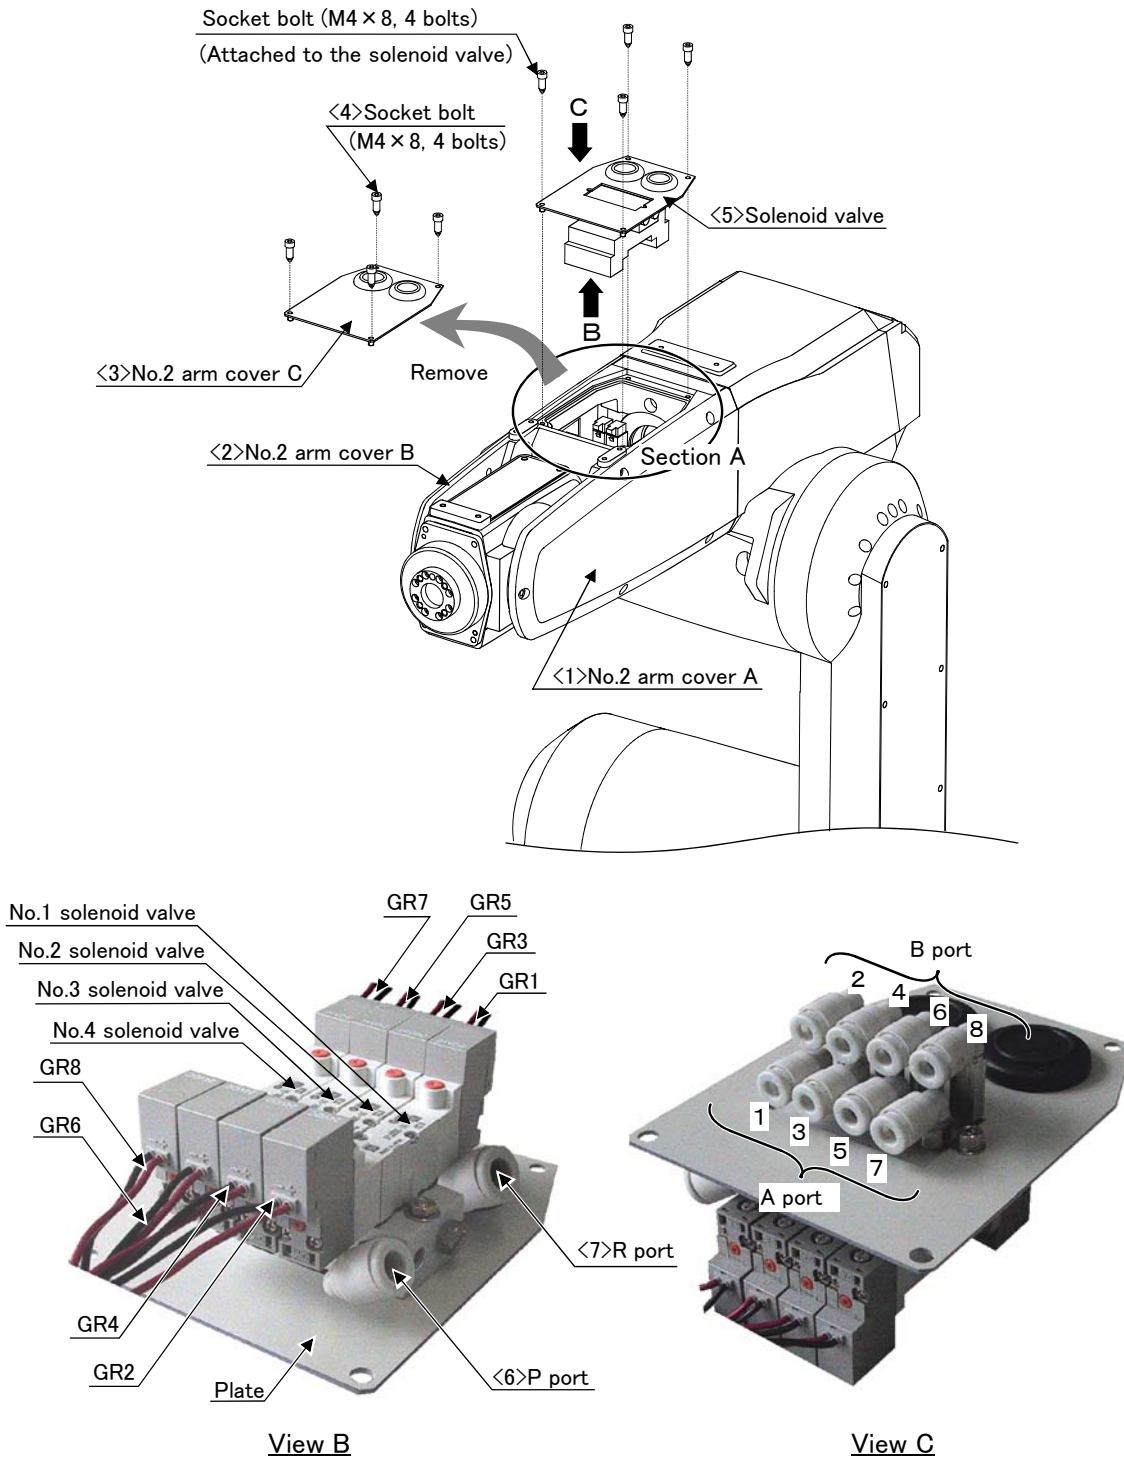
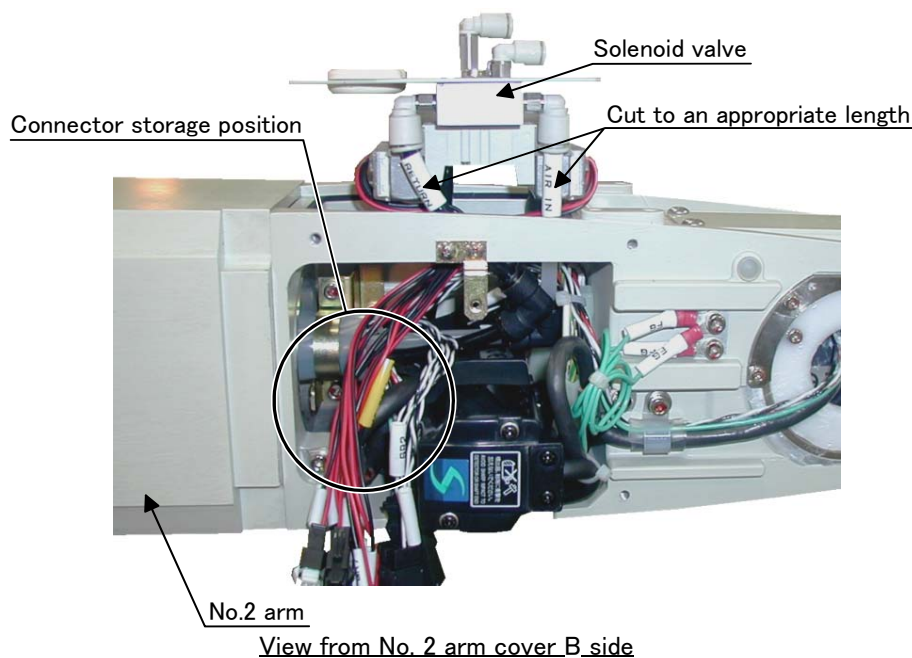
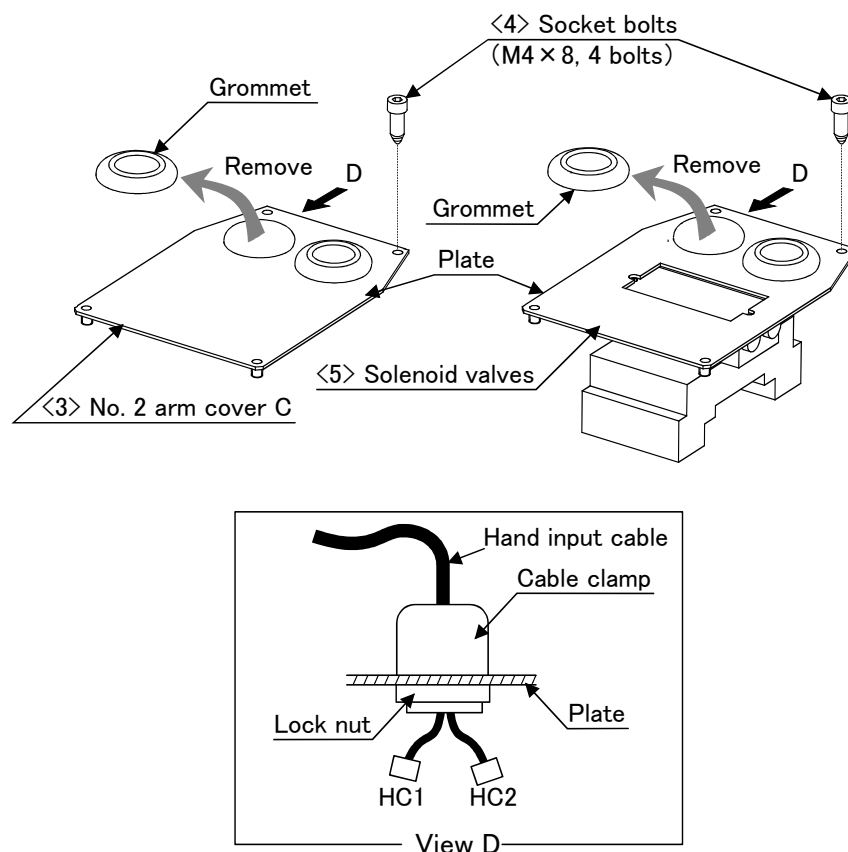

Fig.3-1 : Solenoid valve installation procedures
Fig.3-2 : Solenoid valve installation diagram details 1
Fig.3-4 : Installing the hand input cable
Fig. 3-1 and Fig. 3-2 shows the solenoid valve installation procedures and the solenoid valve connector connection procedures. The installation procedures are as follow. This work must be carried out with the controller power turned OFF.
- 2) If you are not using the spare line (ADD: stored in a coil) in section A shown in Fig. 3-1, remove it. The spare line is connected to a connector inside section A.
- 3) Connect the connectors of "GR1" and "GR2" stored in section A to the connectors of "GR1" and "GR2" coming out of the solenoid valves. Store the connectors near the location marked with ○ shown in Fig. 3-2.
The procedure for installing the hand input cable is as follows. Conduct work by referring to "Fig. 3-1 Solenoid valve installation procedures" on page 45 and "Fig. 3-4 Installing the hand input cable" on page 48 below.
- 6) Connect the connectors of "HC1" and "HC2" stored in section A shown in Fig. 3-1 to "HC1" and "HC2" of the hand input cable.
- 7) Mount the No. 2 arm cover C <3> or the solenoid valves <5> to section A shown in Fig. 3-1. When mounting, be careful not to damage the sponge sealing material attached to the opening of section A. If it is damaged, the protection performance may be lowered.
- 6) Connect the connectors of “GR1” and “GR2” stored in section A shown in Fig. 3-1 to “GR1” and “GR2” of the hand output cable.
- 7) Mount the No. 2 arm cover C <3> to section A shown in Fig. 3-1. When mounting, be careful not to damage the sponge sealing material attached to the opening of section A. If it is damaged, the protection performance may be lowered.